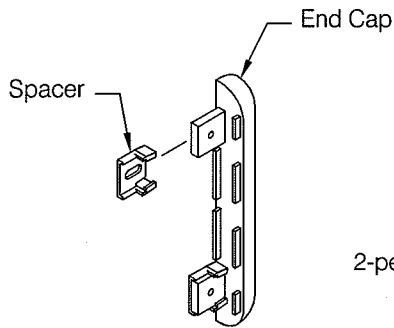
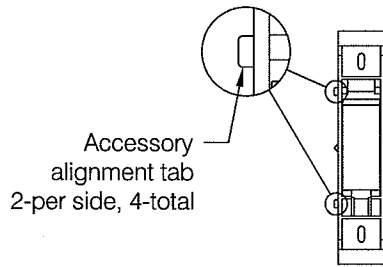
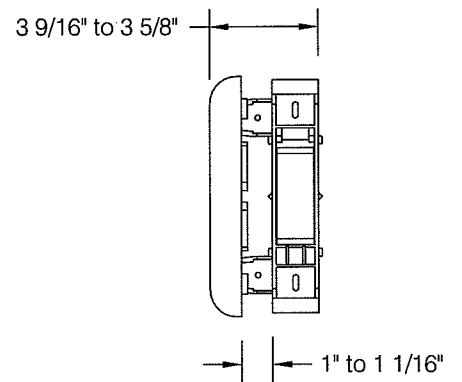

fig 4
fig 5
fig 6
Step 3: A Quik Clip must be installed adjacent to each molded accessory. Begin by installing a spacer on each of the accessory mounting tabs, see **fig 4**. The Quik Clip has four accessory alignment tabs used to facilitate positioning of the molded components with respect to the clip, see **fig 5**. Temporarily locate the accessory and Quik Clip combination by holding them temporarily in their desired position. Remove the accessory and fasten the Quik Clip in place. It is also possible to locate the clip by measuring 3 9/16" to 3 5/8" from the outer edge of the desired accessory location or 1" to 1 1/16" from the inner edge, see **fig 6**.